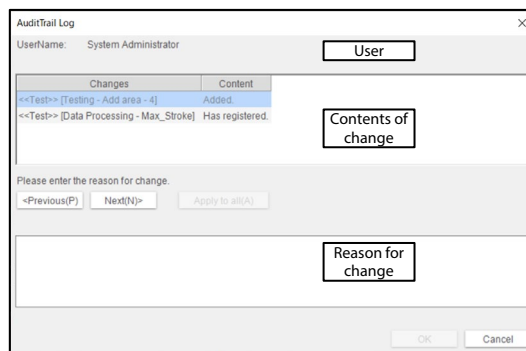

Fig. 9 Audit Trail Log Window
- Audit trails that record different users or details and reasons as a history when test conditions are changed (Fig. 9)